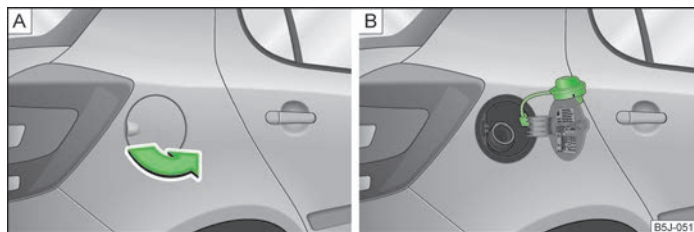

Fig. 115 Right rear side of the vehicle: Fuel filler flap/fuel filler flap with cap unscrewed
The correct type of fuel for your vehicle and the tyre size and inflation pressure are specified on the inside of the fuel filler flap » Fig. 115 on page 136 - [B].
- Open the fuel filler flap with one hand » Fig. 115 - [A].
- Unscrew the filler cap by turning it to the left and place the cap onto the top of the fuel filler flap » Fig. 115 - [B].